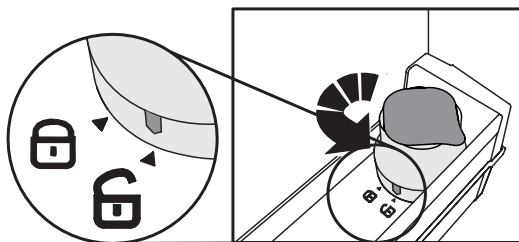

Fig 3
- Unlock the whole filter turning it anticlockwise (**Fig 3**)
- Remove the old carbon cartridge and insert the new one **after activated**, with current month faced in the window) **(You can follow the procedure described in Carbon filter activation and Filter installation - Fig. 3,4,5,6,7,8).**